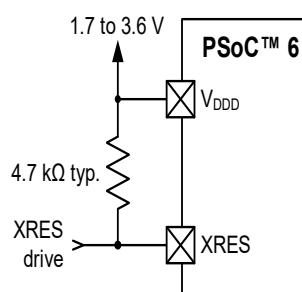

Figure 6 XRES connection diagram
- External reset dedicated pin (XRES) to reset the device using an external source. The XRES pin is active low. It can be connected either to a pull-up resistor to V_{DDD} , or to an active drive circuit, as Figure 6 shows. If a pull-up resistor is used, select its value to minimize current draw when the pin is pulled low; 4.7 kΩ to 100 kΩ is typical.